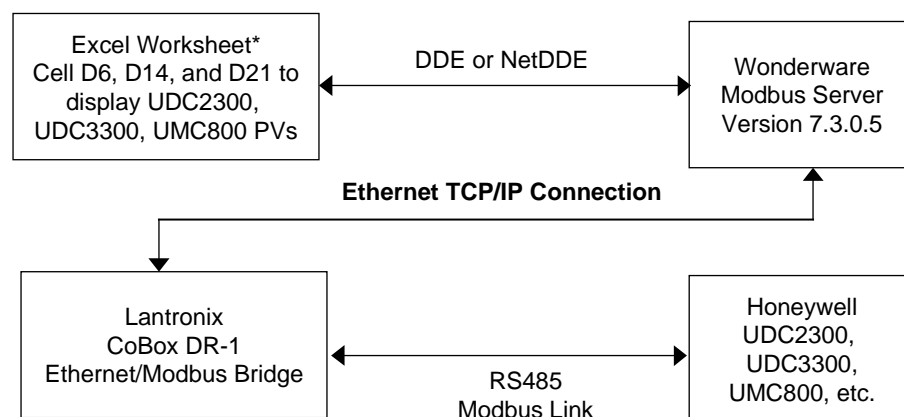

Figure 1 – Functional Overview
Overview. This application note will demonstrate how to connect a Wonderware Ethernet server to three Honeywell LeaderLine devices: UDC2300, UDC3300, and UMC800 with Modbus communication. The example (Figure 1) will connect a process variable (PV) from each of these three devices to cells on a Microsoft Excel spreadsheet. Any previously listed LeaderLine devices could be added to the Modbus network.